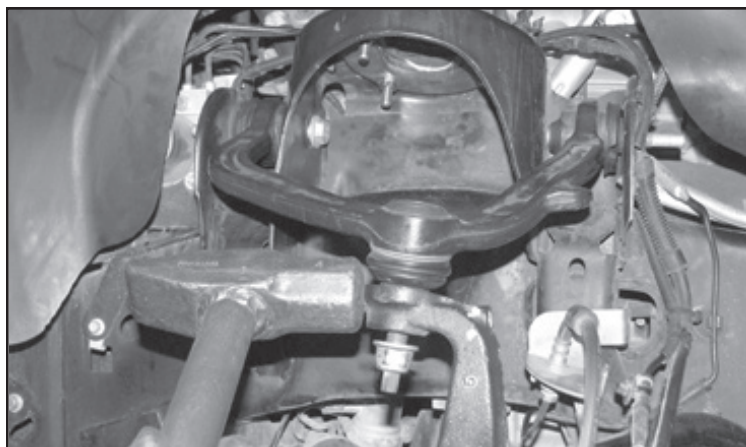

FIGURE 1 - STEP 2
2. Starting on the drivers side, loosen the upper ball joint nut. Disconnect the upper ball joint from the knuckle by striking the knuckle with a large hammer next to the upper ball joint on the knuckle to dislodge the ball joints. Use care not to hit the ball joints when removing. Remove nut. **SEE FIGURE 1**